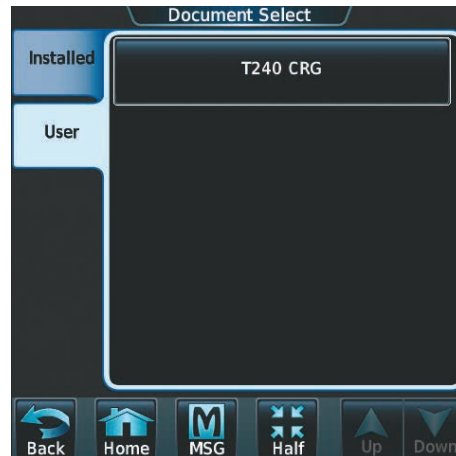

Figure 8-106 Document Selection
- 3) Touch the **Installed** or **User** Tab to select the desired document source as seen in Figure 8-106. In this example, Installed documents is selected.